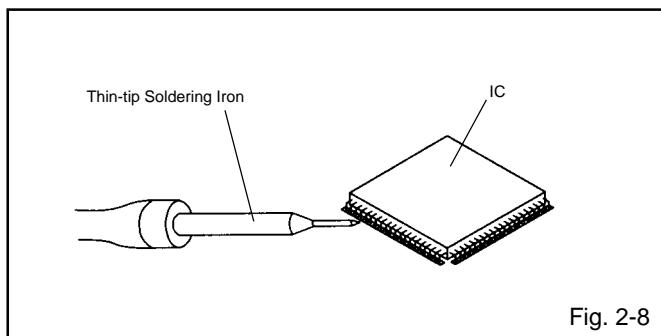

Fig. 2-8
4. When bridge-soldering between terminals and/or the soldering amount are not enough, resolder using a Thin-tip Soldering Iron. **(Refer to Fig. 2-8.)**